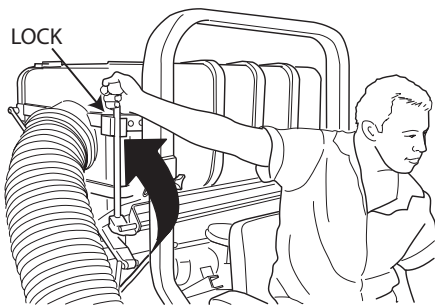

FIGURE 2-2
- C. Once the material has been completely removed from the hopper, lift the hopper door handle to close the hopper door and lock into place. See Figure 2-2.